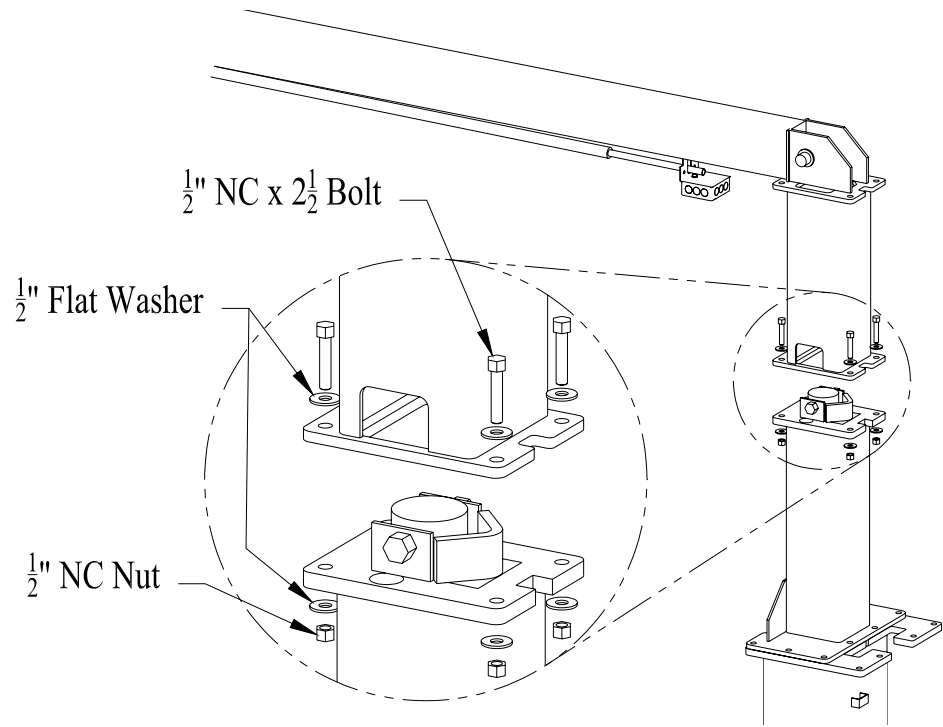

Figure 10
- * Raise the overhead beam and secure it to the top of the uprights using eight 1/2 x 2-1/2 bolts, figure 10.